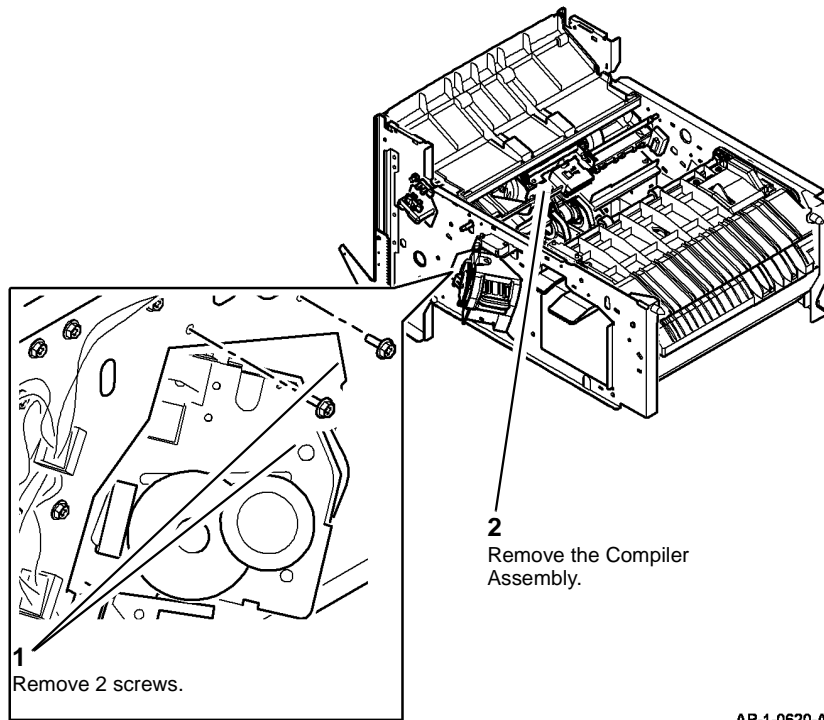

Figure 2 Removing the Compiler Assembly
3. Remove the Compiler Assembly (Figure 2).